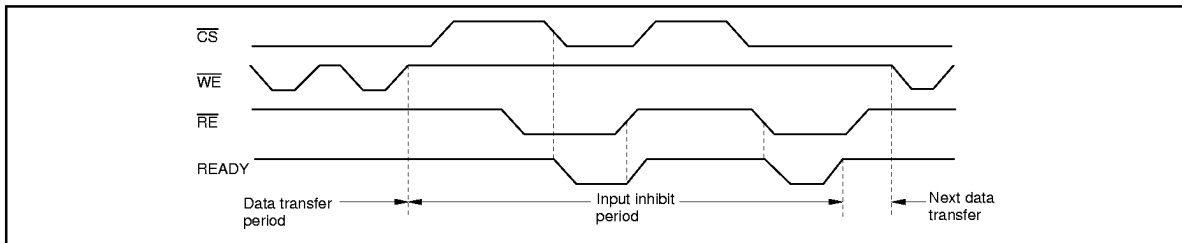

Figure 15 READY Output Timing (When It Is Made Available by \overline{CS} and \overline{RE})
- b. READY is mode available by \overline{CS} and \overline{RE} (Figure 15).